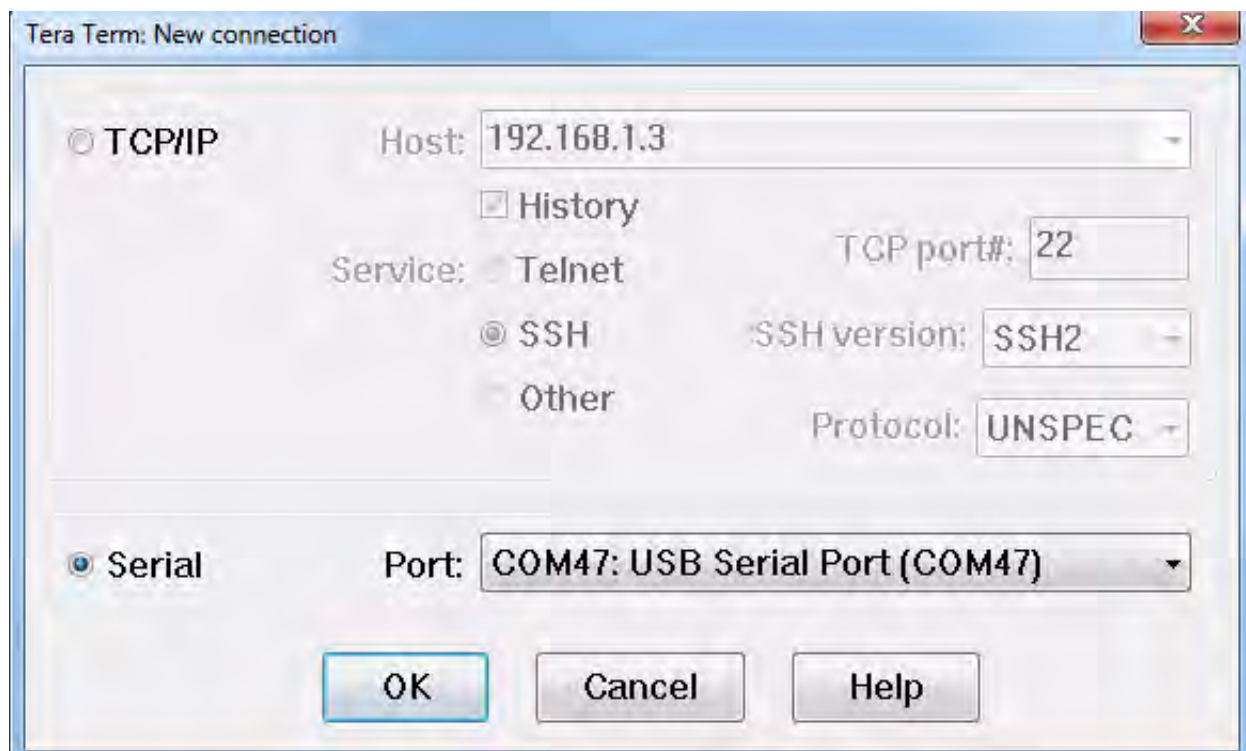

Figure 7. Selecting the Serial Port in Tera Term's New Connection Dialog
1. Launch Tera Term and select the serial COM port assigned to the Platform from the **Port:** drop-down menu, as indicated in Figure 7. COM Port number will vary.
- **Note:** To determine which port is assigned to the Platform, first plug in, then unplug the USB cable from connector J5 (Console) on the Educational Platform. The assigned port will appear, then disappear, in the Tera Term window. As an alternative, port assignment can also be monitored using the Windows OS Device Manager Port viewer. In the Figure 7 example, COM47 has been assigned.